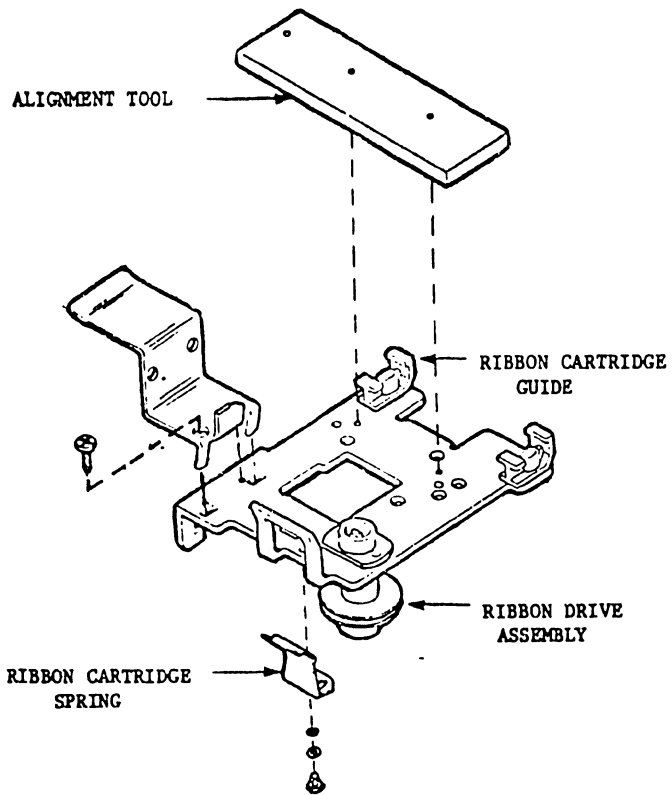

FIGURE 5-11 CARRIAGE ASSEMBLY
- 1) The distance from the center line of the ribbon drive assembly to the inside front edge of the ribbon cartridge guides is 4.38 to 4.42 inches (11.12 cm to 11.23 cm) (Figure 5-11). Also see Figure 8-8 of Section 8.
- 1) Loosen allen screws and move ribbon cartridge guides in appropriate direction (Figure 5-11).
- 3) Loosen hex head screws on bottom of carriage and move ribbon cartridge spring in appropriate direction (Figure 5-11).
- 4) Remove ribbon cartridge spring screws from bottom of carriage assembly and slide ribbon cartridge spring out (Figure 5-11).